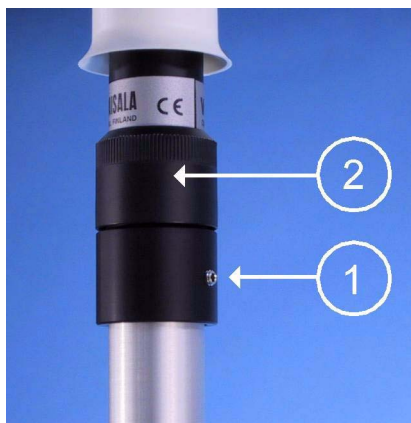

Figure 46 Wind Sensor Adapter Attachment
8. Attach the wind sensor adapter to the top of the wind/telescope mast (if not already attached). Tighten with the small hex screw (number 1 in Figure 46 on page 63). Guide the wind sensor cable through the upper tube and connect it to the sensor. The sensor is affixed into its place by tightening the plastic collar (2).